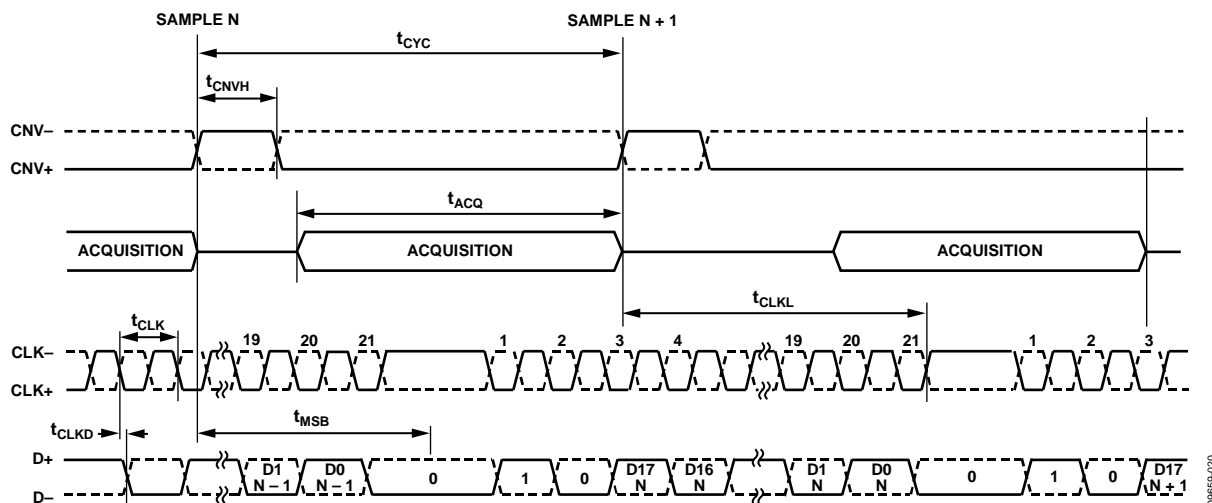

Figure 37. Self-Clocked Interface Mode with Extra Clock Pulse Timing Diagram
When the self clocked interface mode is used, the AD7960 also allows the user to provide an extra (21st) clock pulse to see a guaranteed 0 state at the end of the frame, as shown in Figure 37. After t_{MSB} has elapsed, the first bit of the header sequence, 0, automatically appears on D± and the remaining two bits of the header, 10, are then clocked out by the first two CLK± falling edges at the beginning of the next sample. This header (010) is used to synchronize D± of each conversion in the digital host because, in this mode, there is no clock output synchronous to the data (D±) to allow the digital host to acquire the data output.